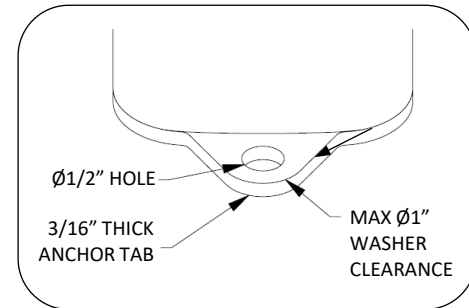

FIG. 1 – TRADITIONAL BASE ANCHOR TAB
2. Mark hole locations through anchor tabs on table, see Fig. 1.